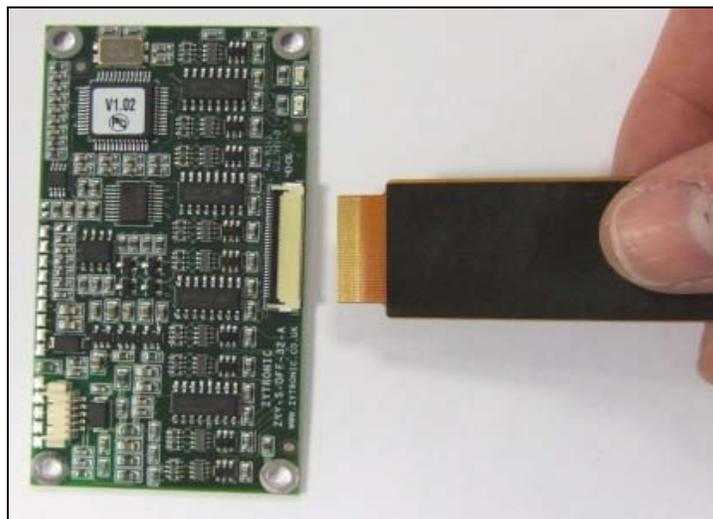

Figure 10: *Insert flexi tail into ZIF connector on PCB*
- With the PCB electronic components face you, ensure the sensor flexi tail is inserted into the on board PCB ZIF connected straight with the gold fingers of the flexi tail also facing you, as shown in Figure 10. It is important that the connection is made the correct way to prevent incorrect operation.